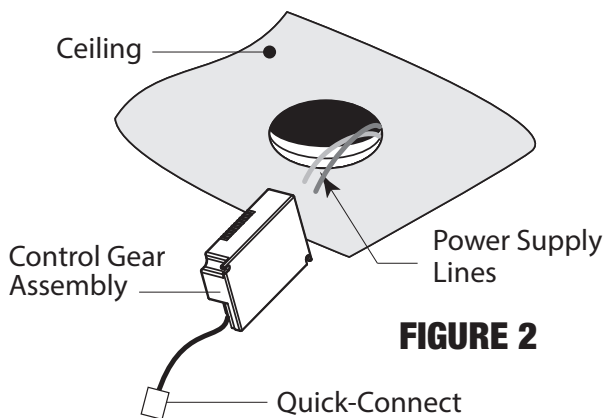

FIGURE 2
Step 2. PULL POWER SUPPLY LINE through ceiling cut-out. CONNECT CONTROL GEAR assembly as required. *See Fig. 2*